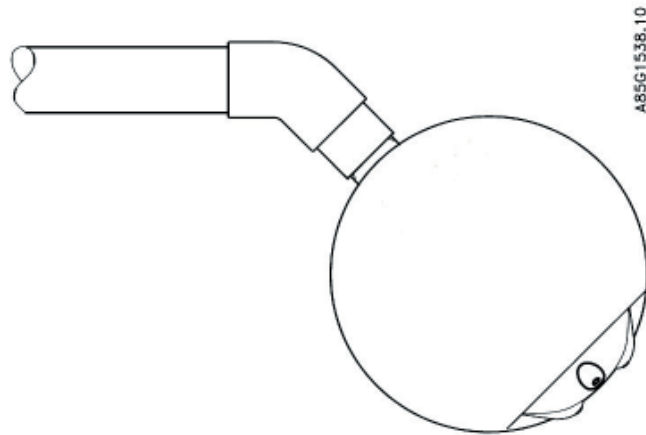

Fig. 30
1. Place the transmitter in free air so that the OXY 1100 sensor points downwards, see fig. 30.